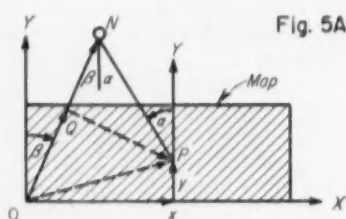

Fig. 5A
**PROBLEM**—In the AN/APQ-T2A Ultrasonic Bomber/Navigator Training Equipment used by the Air Force, there is a plane map, Figure 5A, on which the longitude meridians are straight lines radiating from some point that may or may not be on the map. A point  $P$  is defined by  $x$  and  $y$  coordinates from  $O$ , the map center. This indicates a mixed arrangement of rectangular and polar coordinates. Knowing the map distance from  $O$  to  $N$ , the north pole, and the angle  $\beta$  between  $ON$  and the  $Y$  axis, find the true bearing of the  $Y$  axis at  $P$  (i.e., the angle  $\alpha$ ).